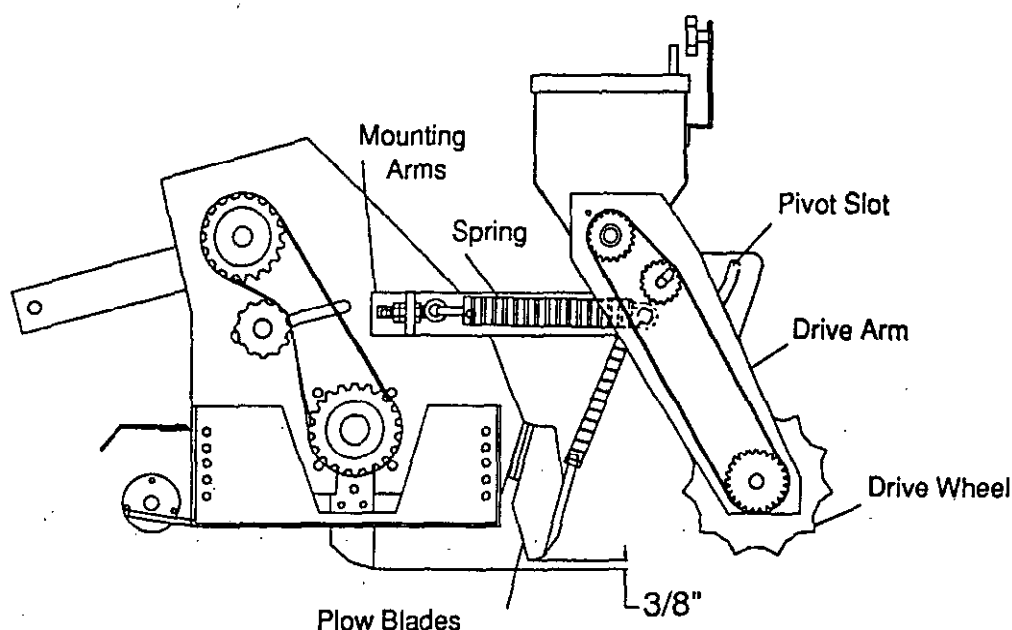

FIG. 3
Please inspect the unit for loose or missing parts and any damages that may have occurred in shipment. Please make any claims immediately to the carrier. If the Model 831 is ordered with the Model 71, it will already be mounted to it. If ordered separately, the planter must be field mounted to the Aerator. Use the following instructions to mount. Refer to Fig. 3 while mounting.
3. **BLADE DEPTH:** As the blades on the Model 71 wear, the plow blades on the Model 831 must be moved. The plow blades must be approximately 3/8" higher than the Model 71 blades (See Fig. 3 under Set Up Instructions). To check, block up the Model 71 on a flat surface. Rotate the blade shaft until the blade is straight with the ground, then check the dimensions. The plow blades can be moved up or down on the slots they are mounted on.